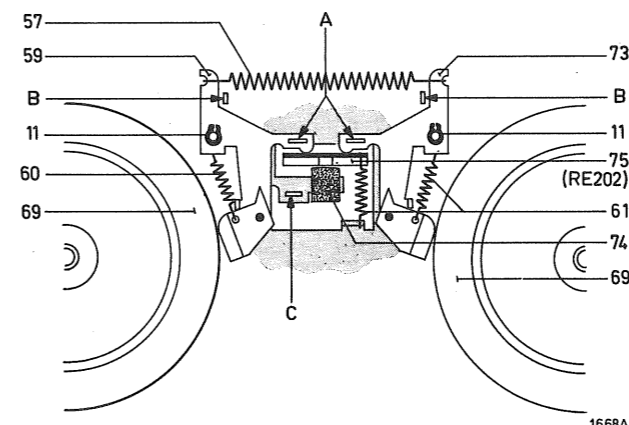

Fig. 16
- When the solenoid is energised the clearance between the brake shoes on bracket 59 and 73 and the turntables should be 0.6 to 0.7 mm. To be adjusted by bending tags A. Make sure that the clearance on the left and on the right is equal (see Fig. 16).
- When the brake shoes are applied the clearance between tags B and the brake brackets should be 0.2 - 0.3 mm. To be adjusted by bending tags B (see Fig. 16).
- When the brake shoes are reversed (round side of brake shoes against turntables), the clearance between the solenoid armature and the brake brackets (59 and 73) should be 0.3 to 0.4 mm. To be adjusted by bending tag C (see Fig. 16).
The braking force equals the gauge reading x radius of the wound tape. To be adjusted by shortening, extending or replacing spring 57 (Fig. 16).